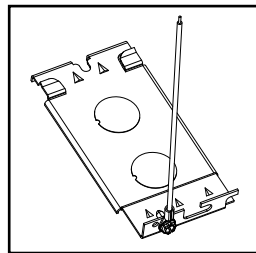

Figure 1
5. Remove electrical access plate and remove necessary knockouts from access plate for attachment of electrical supply cable (Figure 1 and 2). Replace electrical enclosure